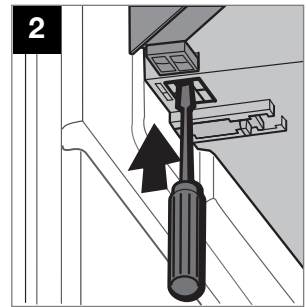

Fig. 25
- Unlock the freezer compartment door using a screwdriver (Fig. 25).